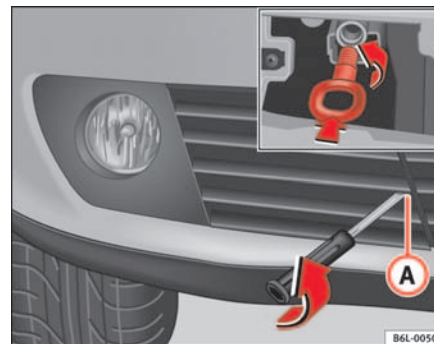

Fig. 159 Towing eye at the front of the vehicle
- Remove the bolt  ⇒ page 221, fig. 159.